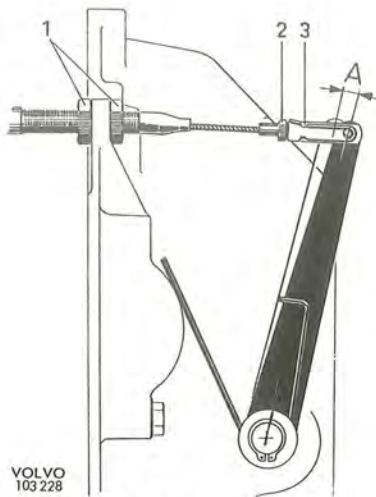

Fig. 4-3. Release lever play
Correct clutch pedal play is obtained by adjusting the release lever so that on left-hand steered vehicles a play of 4—5 mm (.16—.20"), A in Fig. 4-3, is obtained. Play is adjusted by unscrewing or screwing in the fork (3) on the clutch wire. If this adjustment is insufficient,